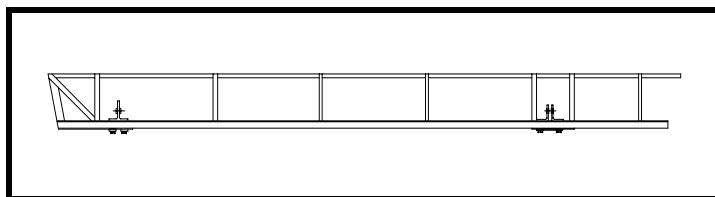

Figure 3
- ❑ At the bottom of the rudder, install the diagonal leading edge rib, P/N 414-3, and the piece of spruce along the bottom of the rudder. See Figure 3. Scuff-sand the plywood before gluing.